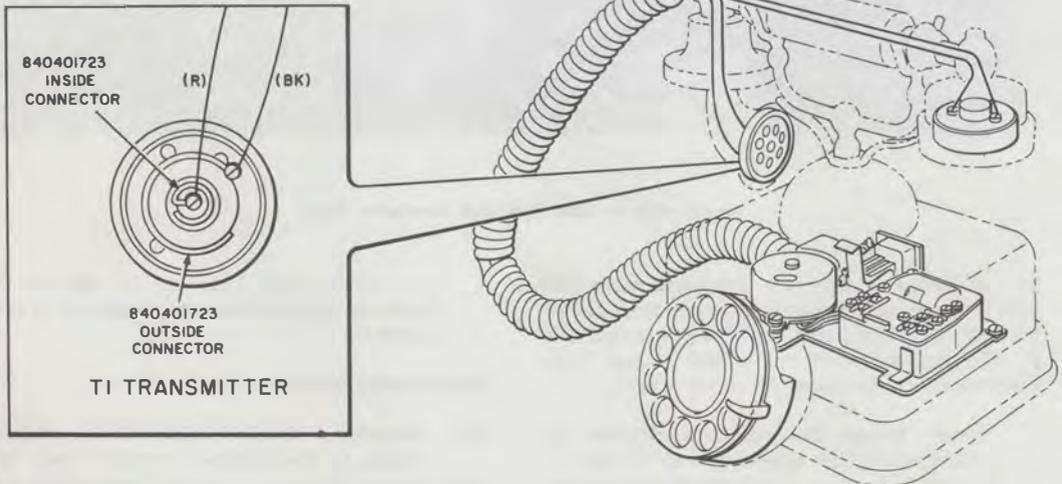
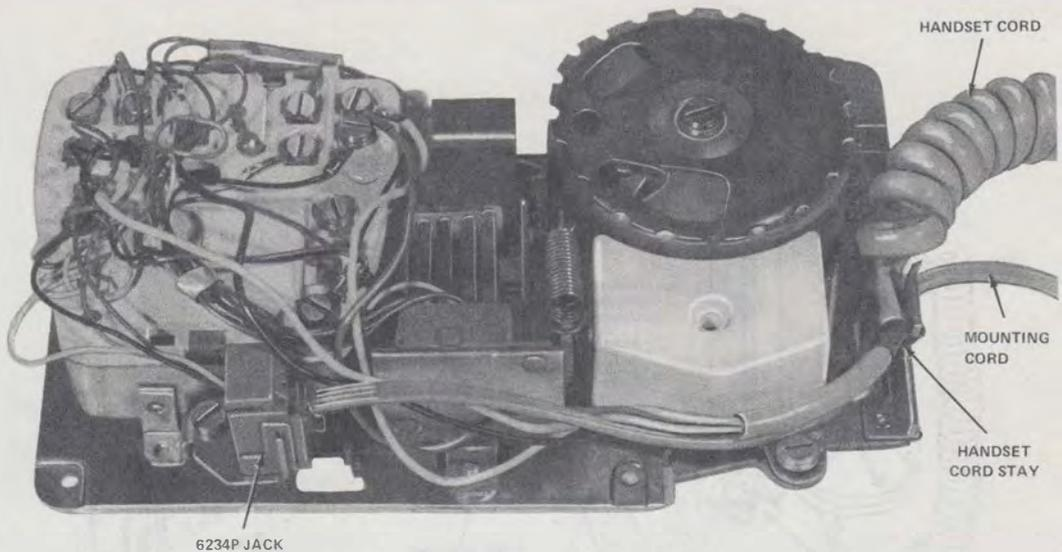

Fig. 3—Typical Installation, Desk Set Antique—Decorator Housing
Fig. 5—Installation of Mounting Cord Using D-180778 Kit of Parts
- (1) Remove upper housing from base of customer-owned housing.
- (2) Position 581A telephone set base on base of customer's housing, ensuring that the ringer volume control is accessible through opening of base.
- (3) Fasten 581A base using four screws, furnished with set or screws furnished with the housing. A typical installation in a customer-owned desk set type housing is shown in Fig. 3.
- (1) Mount 623P4 jack and jack bracket to the network as shown in Fig. 5.
- (2) Connect the four 623P4 jack leads and rearrange network leads as shown in Table D.
- (3) Thread one end of the D4BU mounting cord into the set and plug into 623P4 jack as shown in Fig. 5. For connections refer to Table E or F.
- (1) Lay the set end of H4CJ handset cord on top of mounting cord and secure cord stay to bracket on base as shown in Fig. 5.
- (2) Connect leads to appropriate network terminals (Table A or B).
- (3) Remove transmitter and receiver caps from customer-owned handset. Insert handset cord leads through handset openings, feeding two white leads into receiver cavity and red and black leads into transmitter cavity.
- (4) Connect white leads to U3 receiver unit, place unit in cavity and replace receiver cap.
- (5) Snap inside and outside connectors on T1 transmitter unit and terminate red and black handset leads (Fig. 3).
- (1) A standard D3BN mounting cord is required for connections between the line wire, connecting block and the 581A base network terminals unless inside wire can be terminated directly in wall mounted subset. A D6AA mounting cord must be used to provide the connections between the 581A base and customer's desk stand set, except for party line service where a D10R mounting cord is used when tip party identification is required.
(2) Install set end of D3BN and D6AA mounting cords to 581A base, secure cord stay and route cord as shown in Fig. 5. D6AA cord can lay on top of D3BN cord.
(5) Snap inside and outside connectors onto T1 transmitter unit and terminate red and black leads (Fig. 3).
(6) Refer to Read, 3.09 for transmitter and receiver unit insulation.